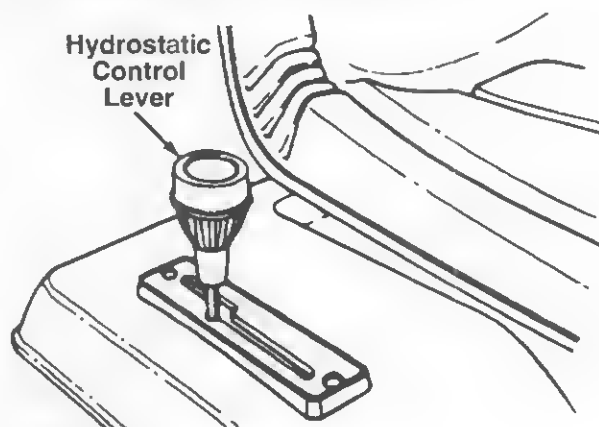

FIGURE 9.
The hydrostatic control lever is located on top of the fender on the left side of the tractor. This single control lever, connected to the hydrostatic transmission, controls both the speed and direction of the tractor. Infinite speed control is achieved by moving the control lever forward or backward. The farther forward or backward you move the control lever, the faster you will travel. Pulling the control lever into the neutral (N) area will stop the tractor. See figure 9.